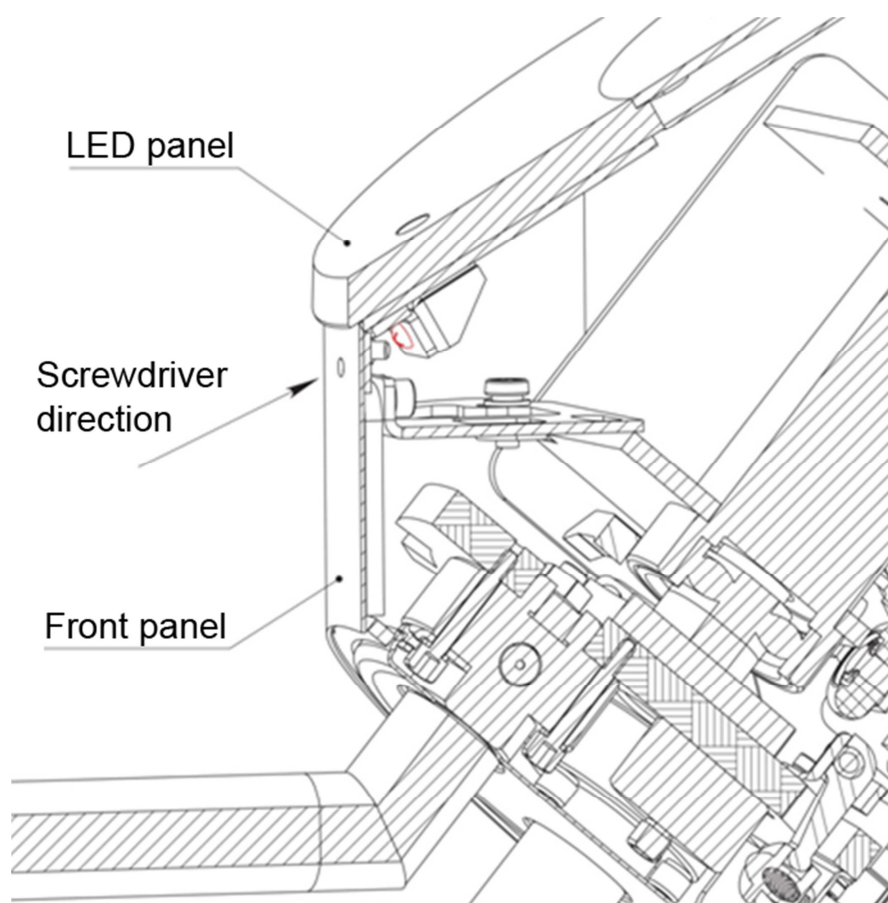

Fig. 3
- remove the screw fixing the LED panel using crosshead screwdriver (Fig. 3);